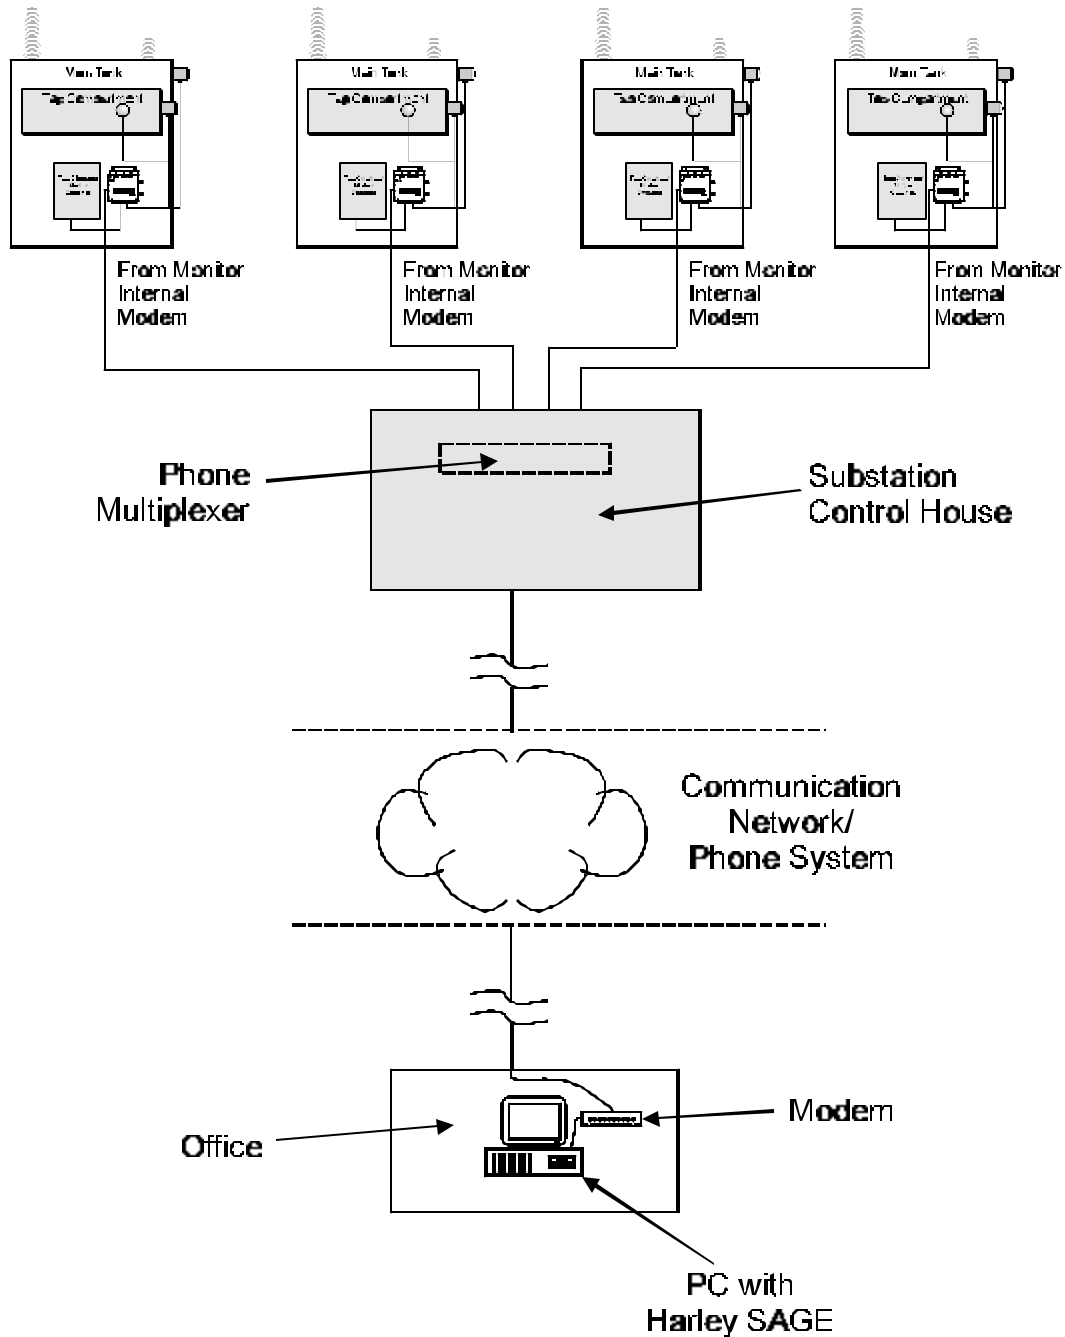

Figure 1-3: Typical System
A typical system may include several monitors, one for each transformer at the site, multiplexed together. The multiplexer is typically located at the on-site substation. (See Figure 1-3). Data from all monitors on site may then be downloaded to a remote personal computer (PC). SAGE™ host software installed on the PC allows for data retrieval and analysis.